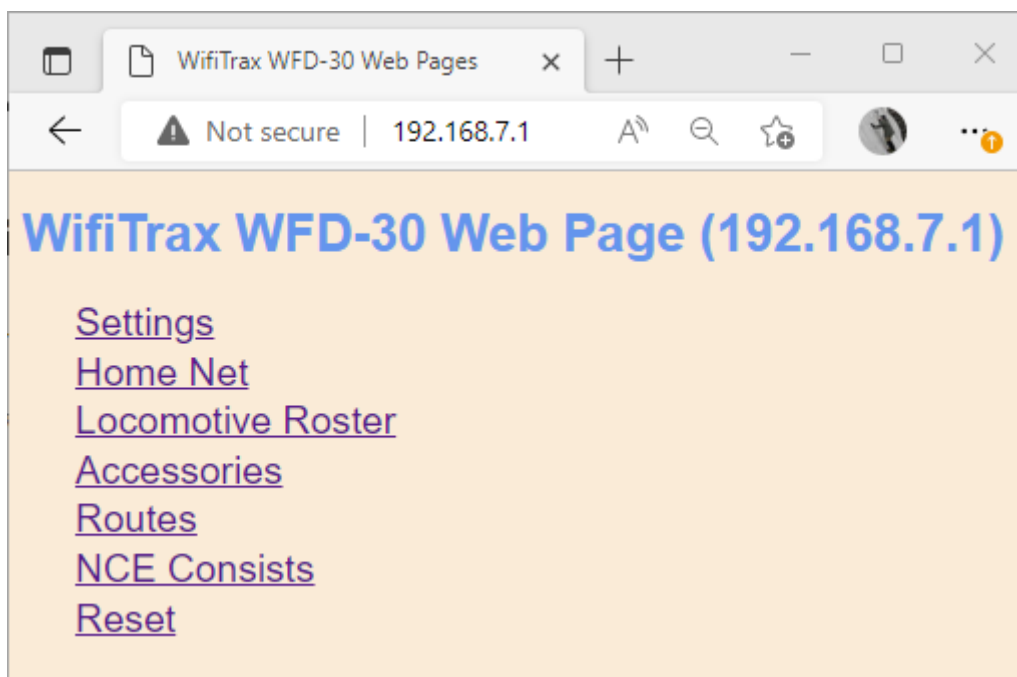

Figure 30 The WFD-30/31 Web Setup Main Menu
- (1) Tap the “three dots” icon at the top right of the screen and select Web in the menu. You should now see the Web Setup Main Menu as in Figure 30. You can click or tap on any of the headings in the menu to access the setup for that feature. The section “Access Advanced Features using a Browser” provides information about all of the menu options.
- (2) You now should see the WiThrottle Address page. At the bottom there should be four tabs Throttle, Address (highlighted in blue), WebServer and Settings. Tap on the WebServer tab and you should now see the Web Setup Main Menu as in Figure 30. You can click or tap on any of the headings in the menu to access the setup for that feature. The section “Access Advanced Features using a Browser” provides information about all of the menu options. Note that WiThrottle Lite does not have this WebServer tab so if you are using the Lite version you will have to use Safari as described in the section “Access Advanced Features using a Browser”
- (4) You should now see the Web Setup Main Menu as in Figure 30. **You should set this page up in your browser favourites, so you can easily come back to it.** You can click or tap on any of the headings in the menu to access the setup for that feature. The next sections describe these features in detail.
To modify General Settings, tap the Settings heading in Figure 30.